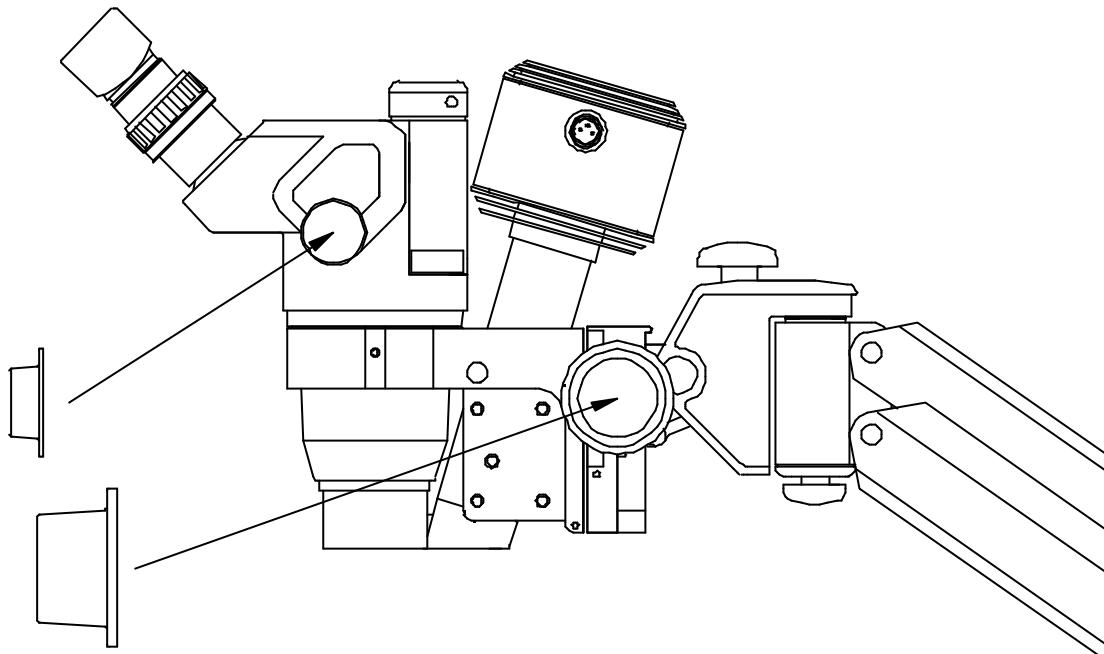

Figure 9
13. Remove two (large) focus control covers and two (small) zoom control covers from the bag inside the case. Push them into position on to the focus control knobs and zoom control knobs respectively (see figure 9).